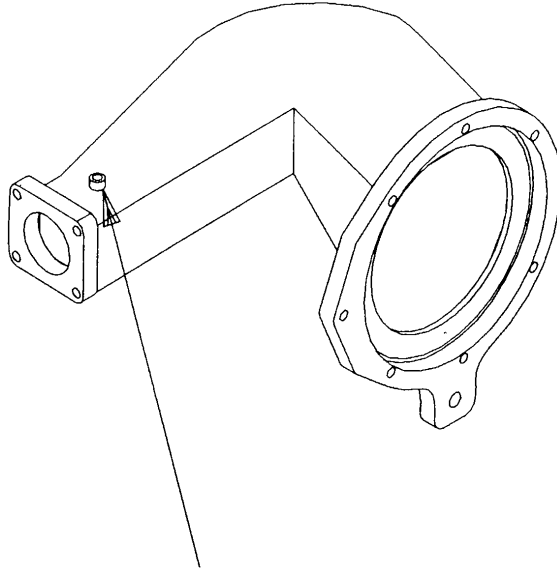

Figure 14. Intake Vacuum Location
25. () Connect a manometer or magnehelic (vacum gauge) to the intake vacuum port shown in Figure 14. Run the engine at full throttle with no Load. The intake vacuum does not exceed 20 inches of water.